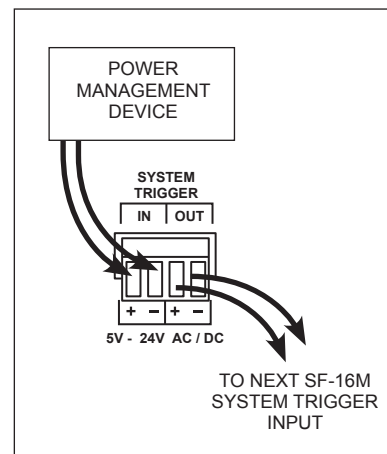

Figure 17. System trigger
2. Make system trigger connections as illustrated in *Figure 17*.